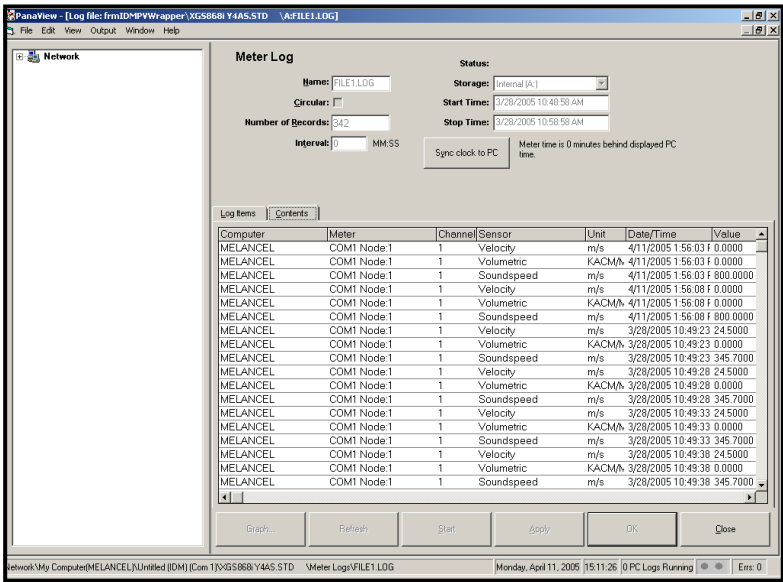

Figure 21: Typical Log Contents
- Click on the *Contents* tab (see *Figure 21* on page 60) for a list of all the data points logged to date for the parameter currently highlighted on the *Log Items* tab.
Remember that only two parameters per channel may be graphed, and that the same two parameters must be graphed for each channel of a multi-channel graph display. When you have finished viewing the graph, click on the **[Close]** option button to close the Graph window and leave the log running. To review log details, click on the *Contents* tab. The window now appears similar to *Figure 21*.
- Click on the *Log Items* tab (see *Figure 21* on page 60) for a list of the parameters specified for logging.
- Click on the *Contents* tab (see *Figure 21 on page 60*) for a list of all the data points logged to date for the parameter currently highlighted on the *Log Items* tab.